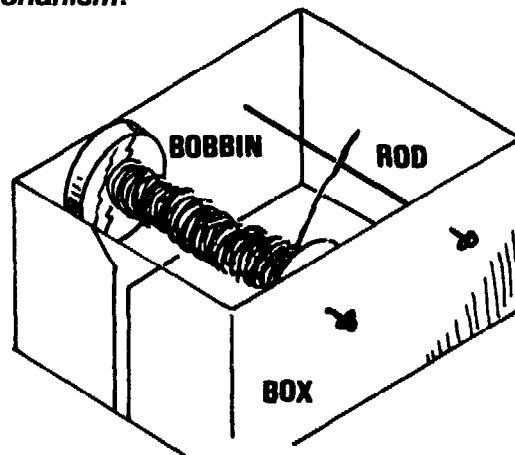

Figure 5.6 - Rewinding spun yarn
- Put the *bobbin* filled with spun yarn in a spool rack made from wood or a cardboard box and thin pieces of iron rods which fit inside the bobbins (figure 5.6).